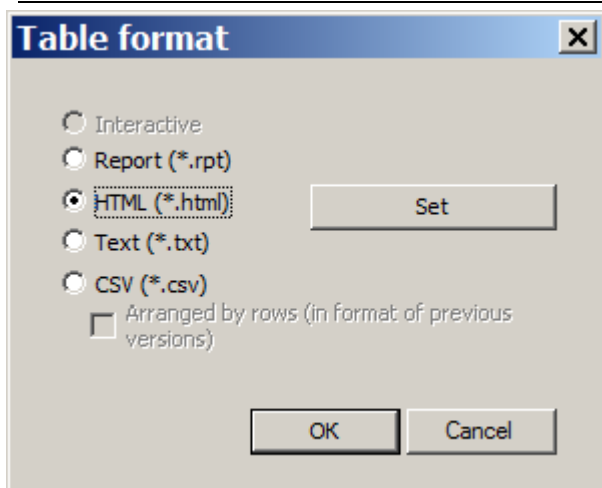

Figure 5.29 Table format dialog box
- ⇒ In the **Table format** dialog box (see Fig.5.29), select appropriate option.